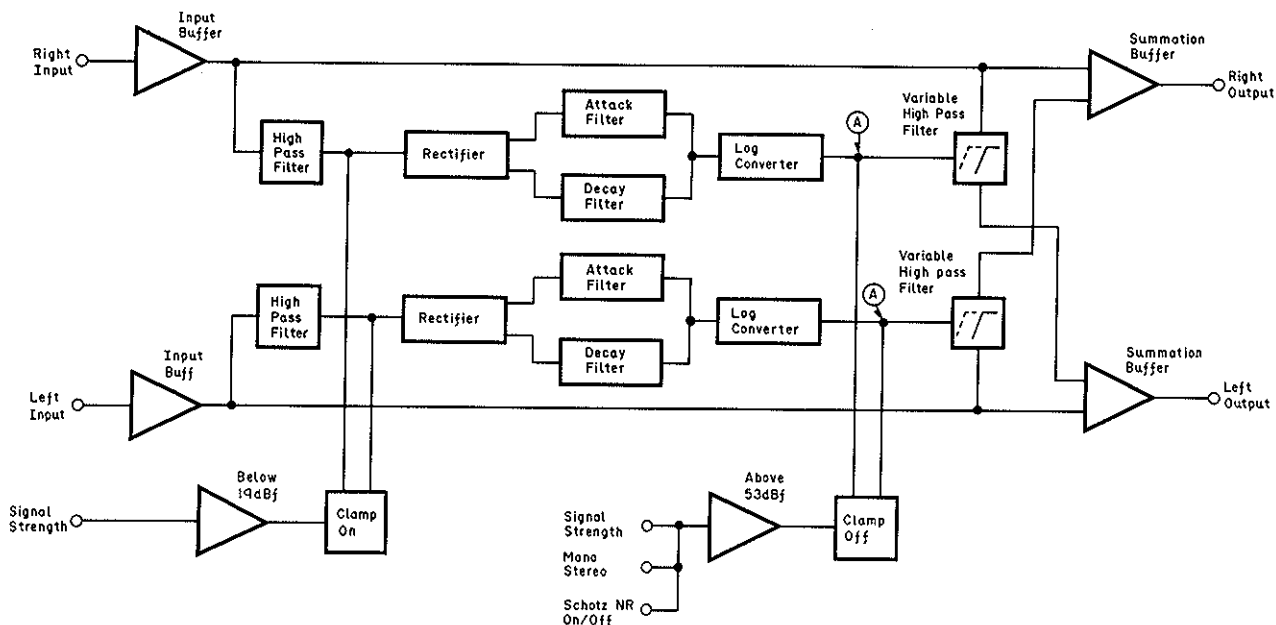

Fig. 14
Fig. 14 is a block diagram of the Schotz NR system. The system consists of IC305, IC306, IC308, Q306 to Q314, Q329, Q330, and their peripheral circuitry on the Main P.C.B. Ass'y.
After stereo de-multiplexing, the left and right signals pass through separate input buffers. These drive a set of high-pass filters that extract the high-frequency energy of the left and right channels separately. Full-wave rectifiers convert the high-frequency energy into DC voltages. These voltages pass through attack and decay filters that determine how quickly the system responds to changes in high-frequency content. The signals now pass through Log Converters, the outputs being DC voltages proportional to the logarithm of the high-frequency energy in each channel, that is, voltages proportional to the treble loudness of the program in each channel. These two signals, designated (A) in Fig. 14, control the cutoff frequencies of two variable high-pass filters that selectively pass more or less of the left-channel audio into the right channel (and right-channel audio into the left channel) depending upon the treble energy in each channel. The actual blending occurs in the output summation buffers.